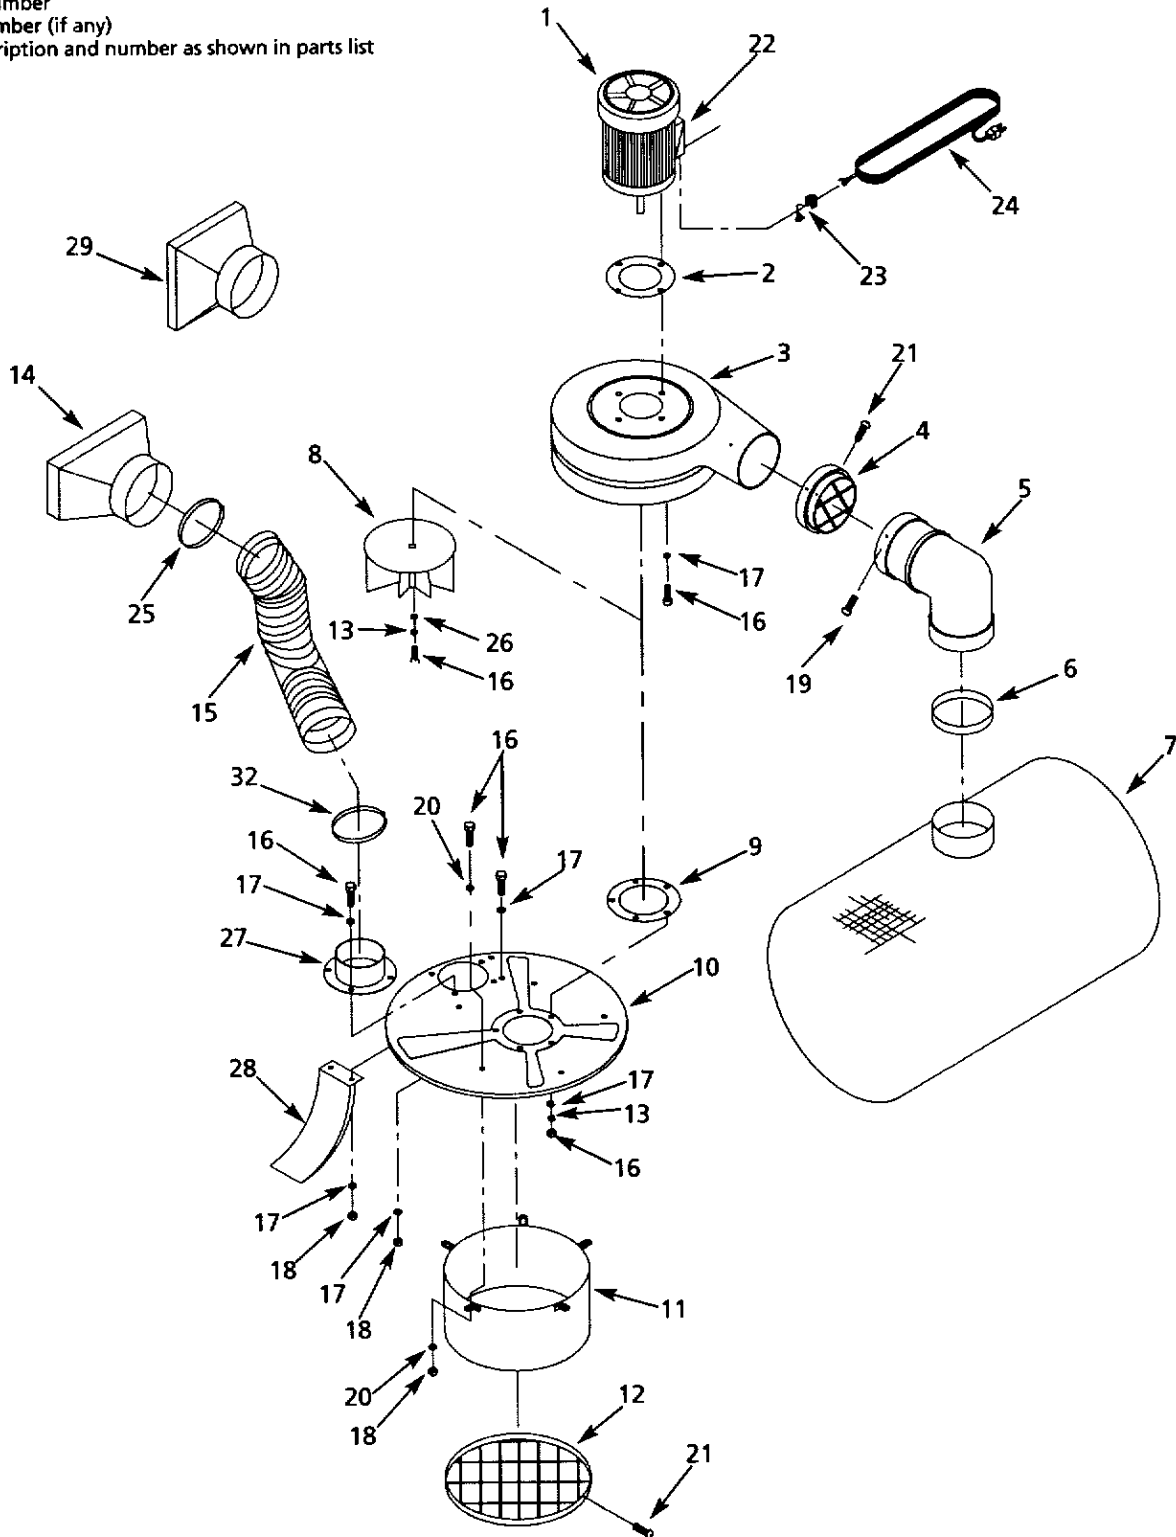
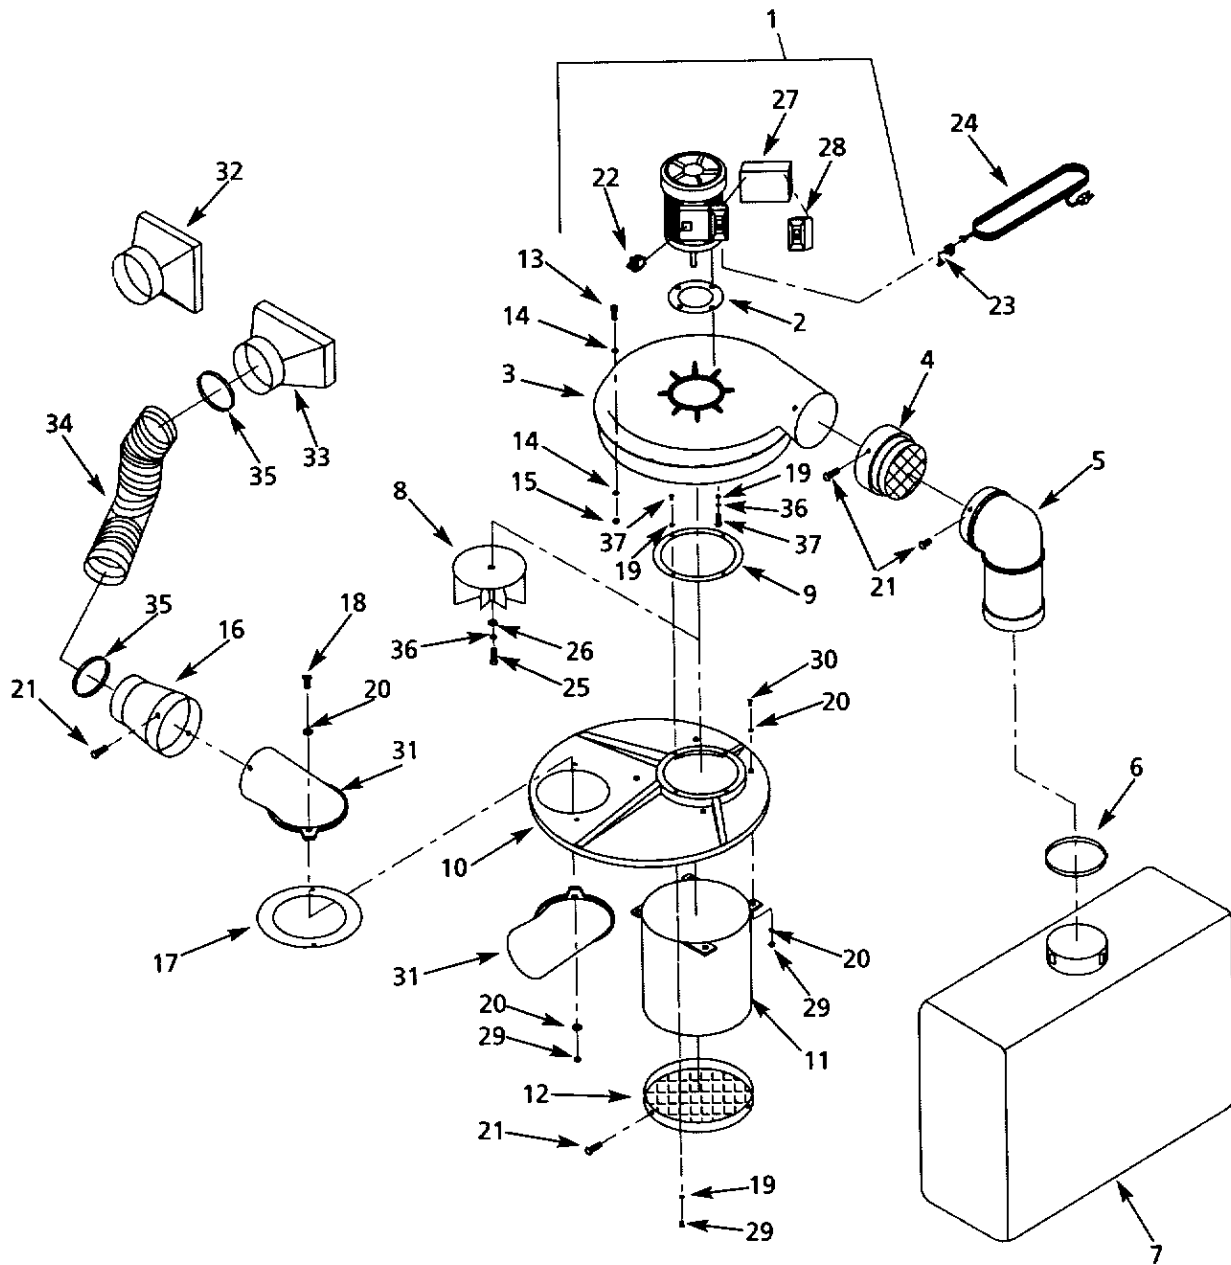

Figure 8 - Repair Parts Illustration for 2- Stage Dust Collector
Figure 9 – Repair Parts Illustration for 2-Stage Dust Collectors
Refer to Figures 8 or 9, pages 8 or 10.
2. Connect inlet hose (Fig. 8 Ref. No. 31 or Fig. 9, Ref. No. 34) to dust producing machine using hose clamp (Fig. 8, Ref. No. 32 or Fig. 9, Ref. No. 35). Use nozzle (Fig. 8, Ref. Nos. 29 or 30; or Fig. 9, Ref. Nos. 32 or 33) if needed.